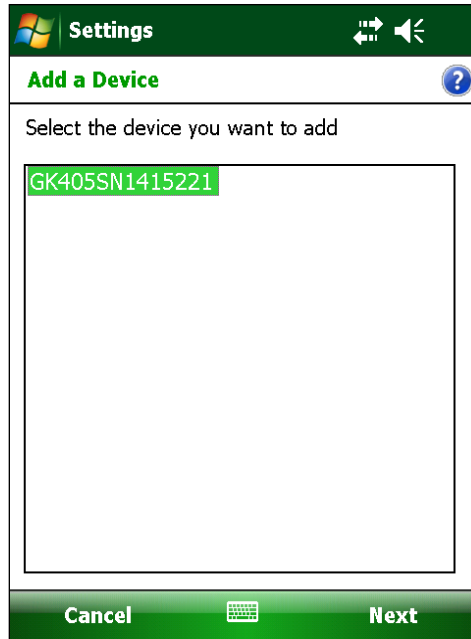

Figure 12 - Add a Device
- 7) The screen shown in Figure 12 will be displayed. Select the appropriate device from the list and tap “Next”.